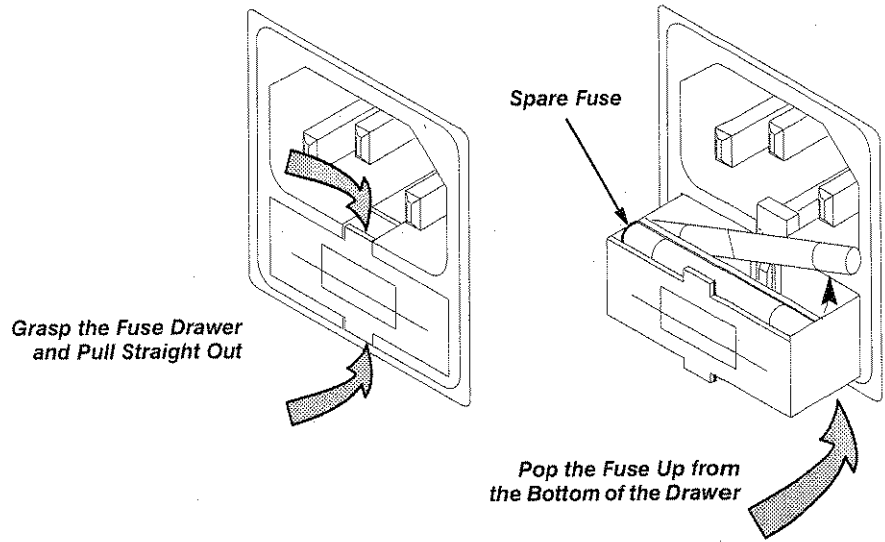

Figure 2-2: Fuse Compartment
3. Check the fuse to ensure it is the proper type and rating (the rear panel provides you with this information). The TAS 475 and TAS 485 Analog Oscilloscopes are shipped with the UL approved fuse installed. Figure 2-2 illustrates how to open the fuse drawer.